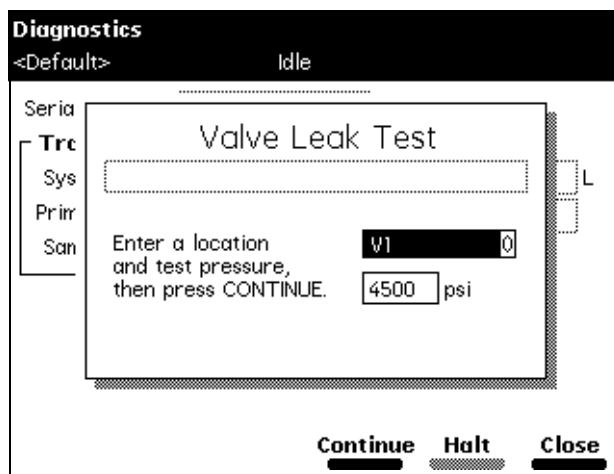

Figure 8-13 Valve Leak Test Screen
1. Select **Valve leak test** in the Other Diagnostics screen, then press the **OK** screen key. The Valve Leak Test screen appears (Figure 8-13).